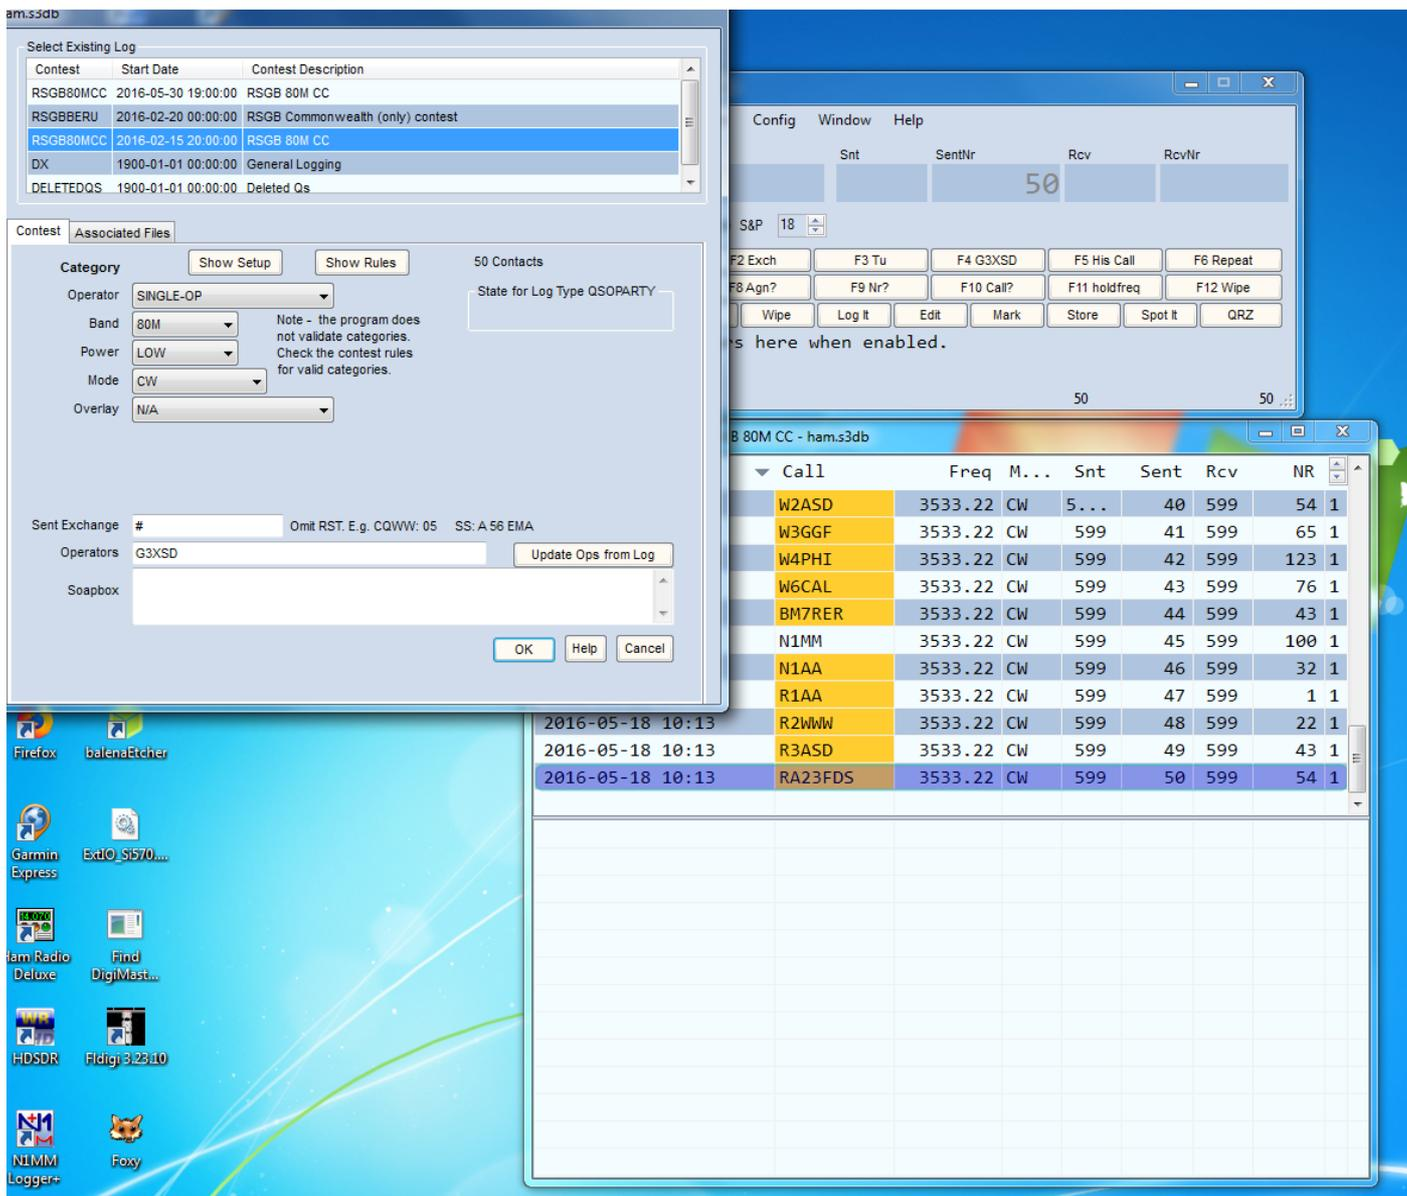

Fig 2
2. Select 'File' and you should see a dropdown as in Fig 2 below. On this you will see an alphabetic list of 'contests' now scroll down until you alight on RSGB 80m CC.